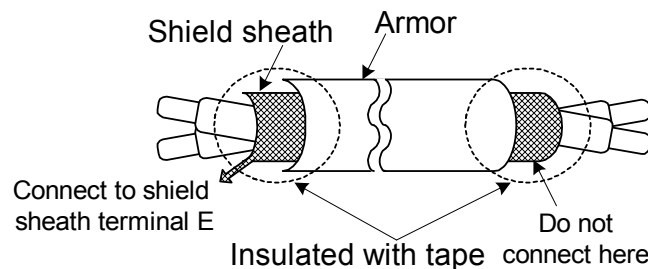

Fig. 3 Processing the ends of twisted-pair cables
- (1) Separate the control circuit wiring from main circuit wiring (R/L1, S/L2, T/L3, U/T1, V/T2, W/T3) and other high-power lines to avoid noise interruption.
- (2) Separate the wiring for control circuit terminals RA-RB-RC (R1A-R2B-R2C) (contact output) from wiring for terminals ①~⑧, A01, A02, GND, DO1, DO2, DOG, 15V(or +12V-, -12V), VIN, AIN, AUX, GND, IP12, IG12, A (+), A (-), S(+) and S(-).
- (3) Use the twisted-pair or shielded twisted-pair cables for control circuits to prevent operating faults. Process the cable ends as shown in Fig. 3. The max. wiring distance should not exceed 50 meter.